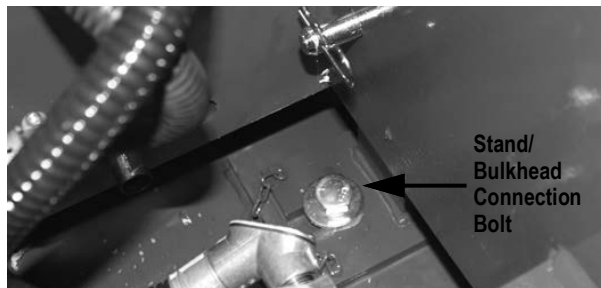

Figure 2-6. Bolt Connecting Stand to Bulkhead
2. Remove the bolt which connects the stand to bulkhead base (see Figure 2-6). Re-install this bolt in the bulkhead base after the stand is raised in Step 4.
4. Install bolt connecting stand to bulkhead base (see Figure 2-6 on page 10).